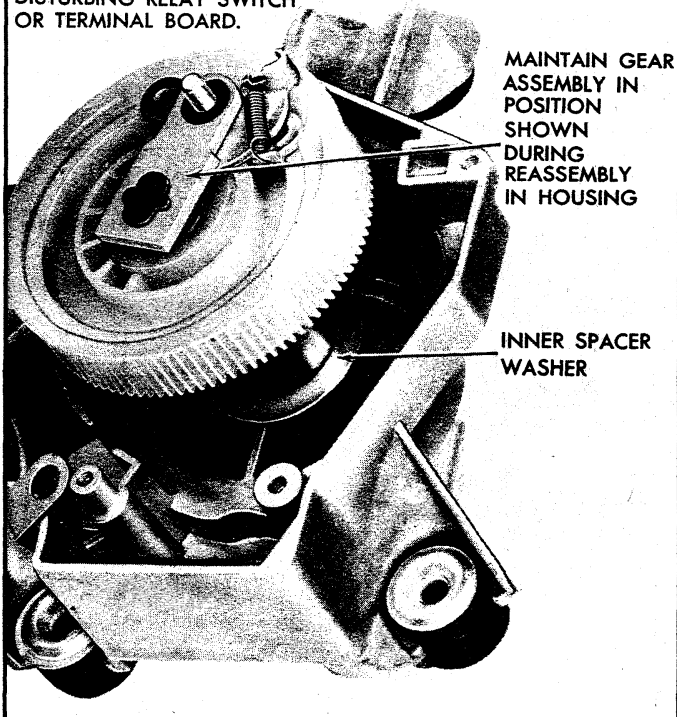

Fig. 85 - Removing Gear Assembly
3. Slide gear assembly out of housing (fig. 85).
6. Assemble inner spacer washer over gear shaft and assemble gear mechanism in housing so that it is positioned with respect to the housing in the approximate location shown in Figure 85.